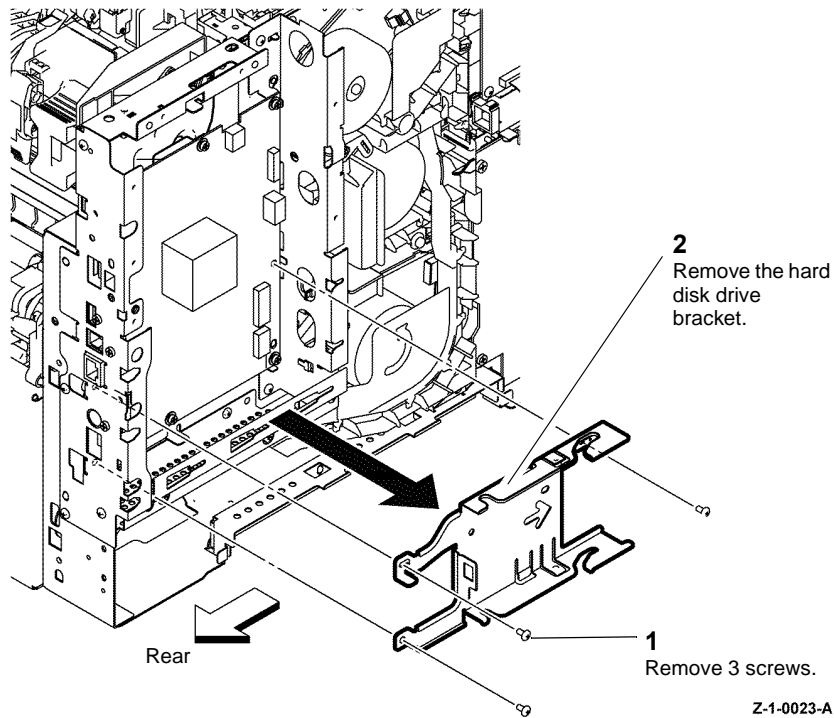

Figure 3 Hard disk drive bracket
3. Remove the hard disk drive bracket, Figure 3.